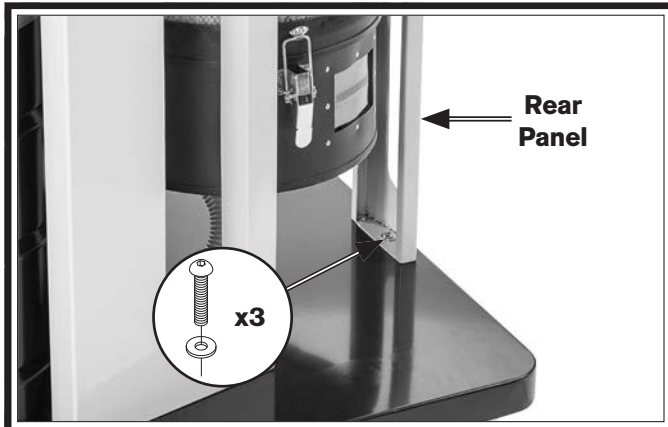

Figure 23. Rear panel attached to base.
28. Attach rear panel to base with (3) $\frac{5}{16}$ "-18 x $\frac{3}{4}$ " button head cap screws and $\frac{5}{16}$ " flat washers (see **Figure 23**).